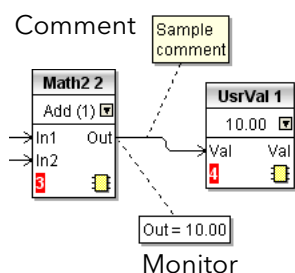

Figure 8.112 Comment and Monitor appearance
Comments can be linked to function blocks and wires by clicking on the chain icon at the bottom right-hand corner of the comment box and then clicking again on the required block or wire. A dashed line is drawn to the top of the block or to the selected wire segment (figure 8.112).
**Note:** Once the comment has been linked, the Chain icon disappears. It re-appears when the mouse cursor is hovered over the bottom right-hand corner of the comment box, see figure 8.112.